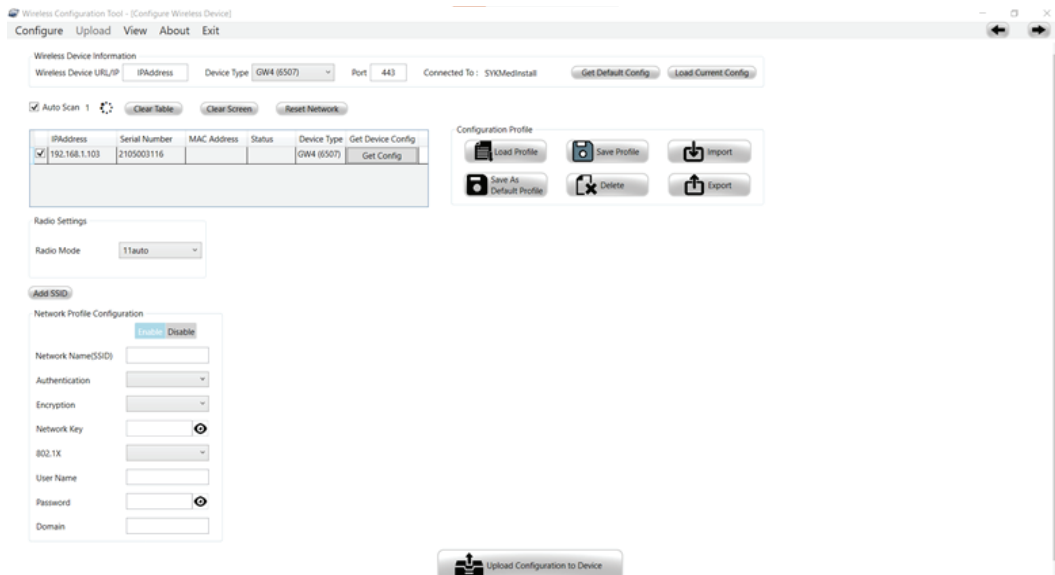

Figure 121 –
7. As the devices start to connect and populate Auto Scan table, select the cot to be activated. The serial number and radio MAC will be listed in the window (Figure 121).